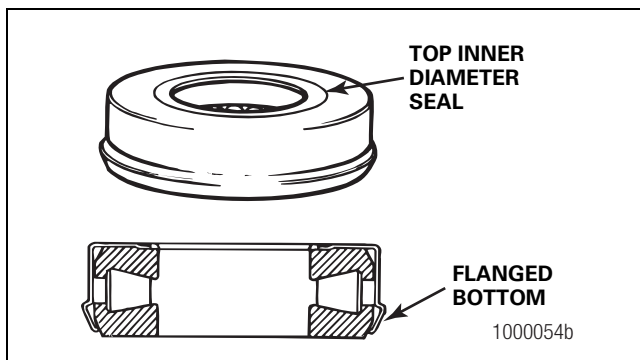
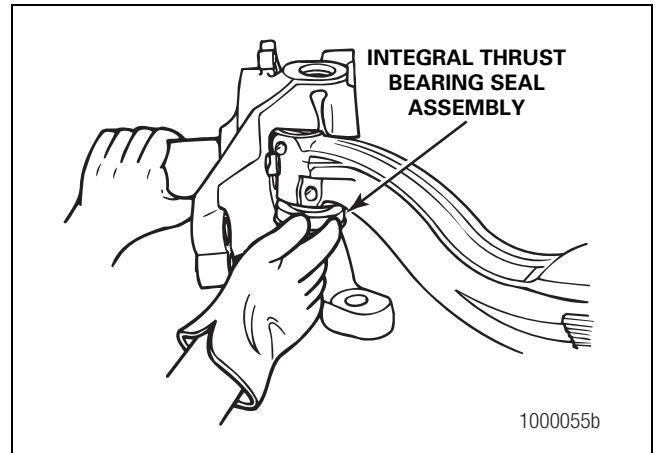

Figure 6.20
Figure 6.21
5. Slide the thrust bearing and seal assembly between the bottom knuckle bore and the bottom of the axle beam. The surface with the inner diameter seal must be on the top. The surface with the outer diameter seal must be on the bottom. Figure 6.20 and Figure 6.21.